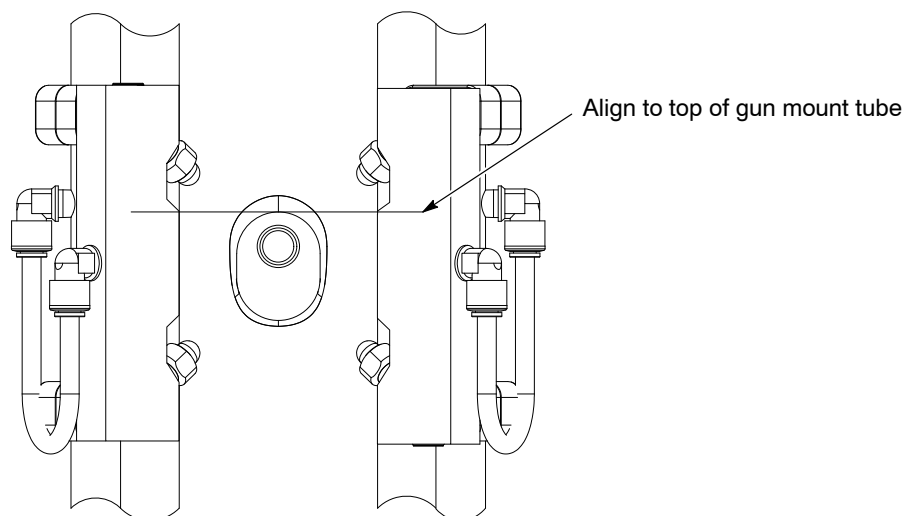

Figure 5 Align to Top of Gun Mount Tube
1. Vertically move the manifold to align the manifold edge under the upper nozzle with the top of the gun's oval mount tube as shown in Figure 5. Repeat for second manifold.